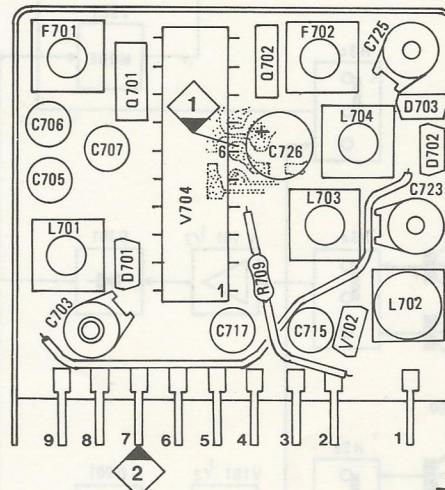

Fig. 3
- (a) Connect the output of the sweep generator to TP1 or antenna receptacle, and the vertical input of the oscilloscope to TP2. Let the vertical input of the oscilloscope and output of the sweep generator be AC coupled (Refer to Fig. 3).